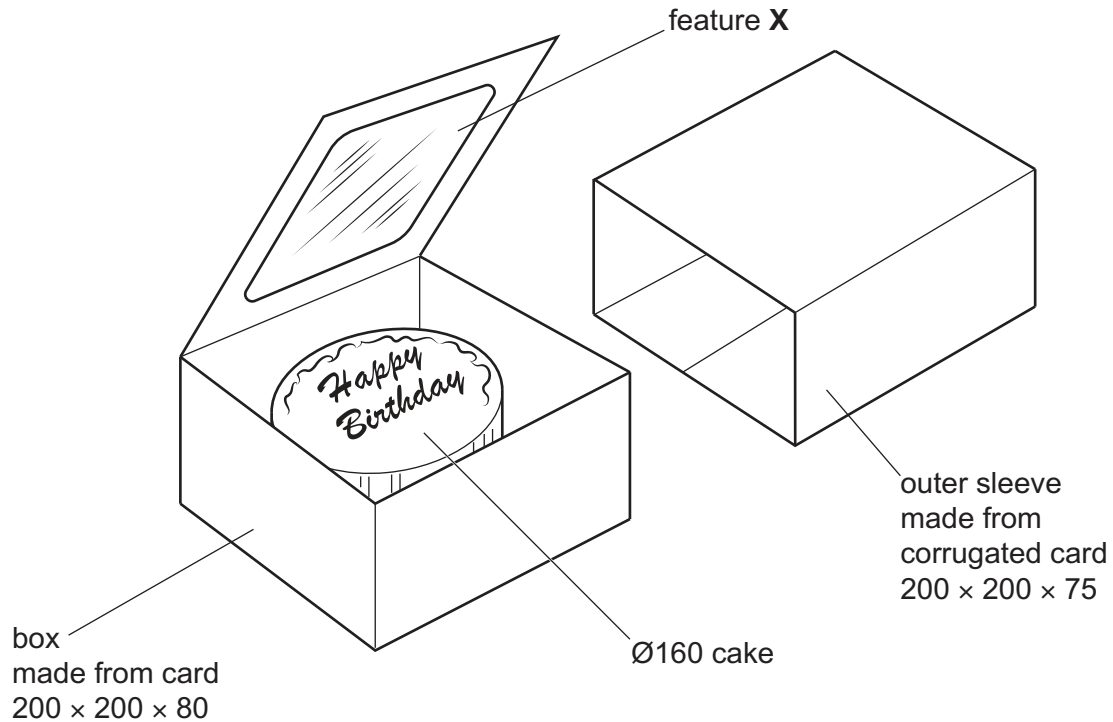

Fig. 5.1
- 5 Fig. 5.1 gives details of incomplete packaging for a birthday cake. The packaging consists of a box that slides into an outer sleeve.